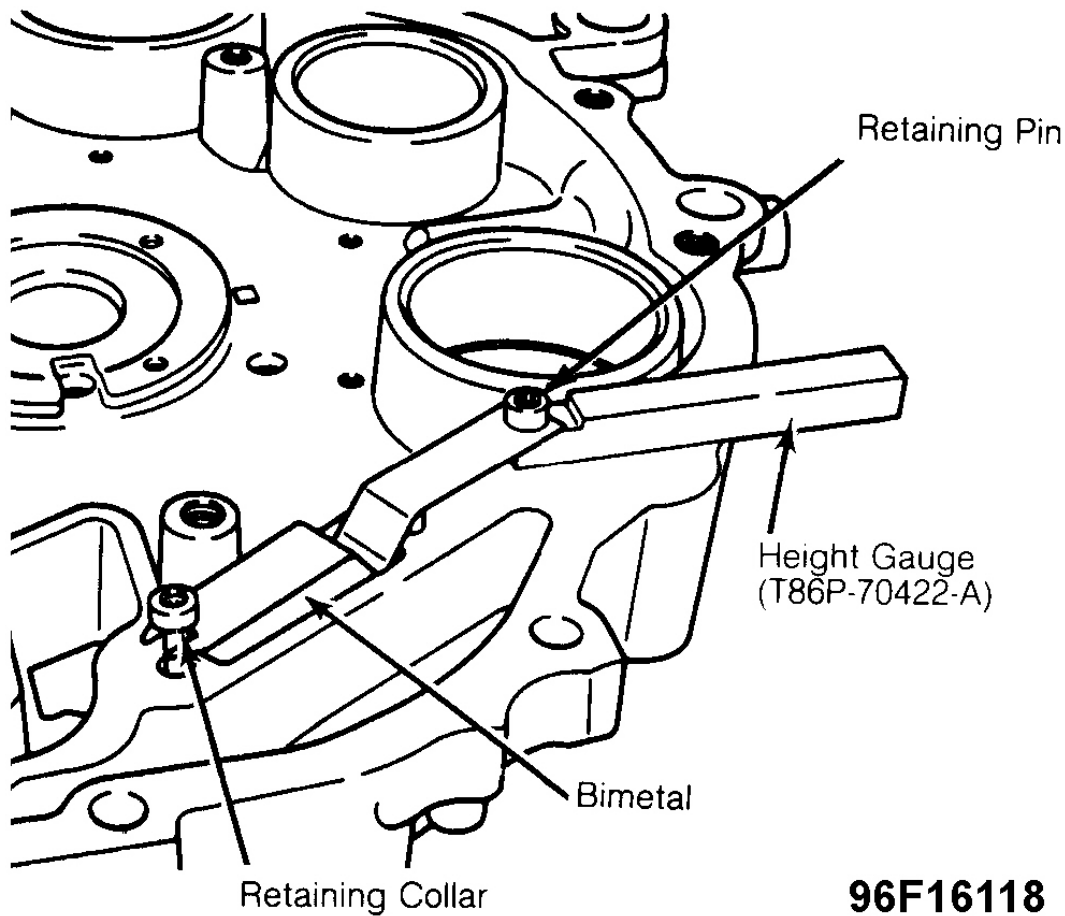

Fig. 12: Setting Bi-Metallic Height
2. Using side cutters, carefully remove bi-metallic retaining pin collars. See **Fig. 12** . Remove bi-metallic and plate. Pull retaining pins from cover. Use care not to damage bi-metallic strips or machined case surface.
2. Place end of bi-metallic with hole, over front retaining pin. Install retaining collars. Place Height Gauge (T86P-70422-A), against pin and under bi-metallic. Gently tap collar onto pin until it seats against gauge. See **Fig. 12** .